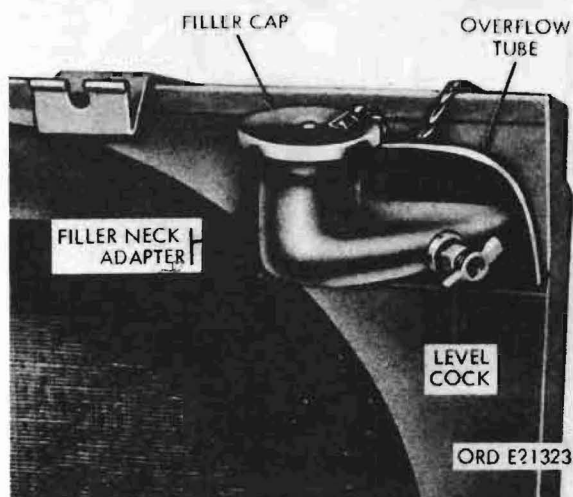

Figure 54. Coolant level cock
(39) Coolant level cock (gasoline models only) (fig. 54). This level cock, lo-